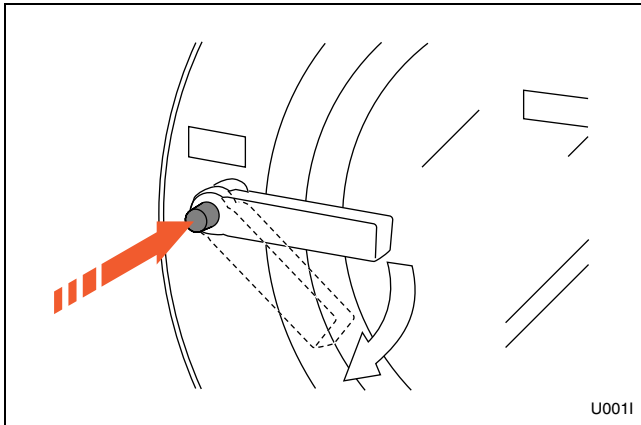

Figure 31
2. Push button and turn handle clockwise to open. Refer to *Figure 31*.